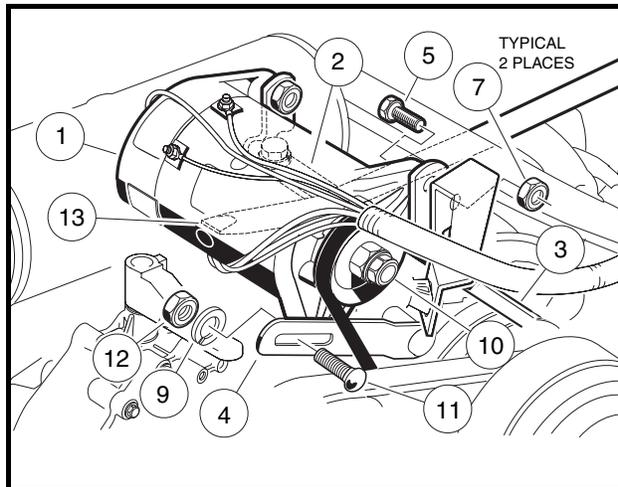
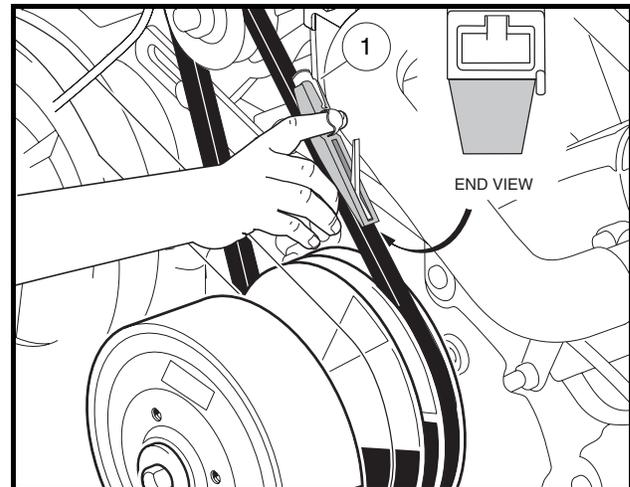

Figure 12-13 Starter/Generator Installation
Figure 12-14 Belt Tension Gauge
2. Install two 3/8-inch hex-head pivot bolts (5) into the mounting bracket with the heads of the bolts facing toward the driver-side of the vehicle. Position the starter/generator in the mounting bracket so that the bolts will go through the starter/generator before going through the bracket. Install a lock nut (7) onto each bolt. Tighten to finger tight (**Figure 12-13, Page 12-11**).
3. Install the adjustment bolt (11) through the adjusting bracket (4) and then through the starter/generator. Install a lock washer (9) and 5/16-inch nut (12) onto the end of the adjustment bolt (11). Tighten to finger tight (**Figure 12-13, Page 12-11**).
4. Install the belt (3), then tighten the mounting bolts. **See Belt Tension Adjustment on page 12-11.**
4. Make sure the two pivot bolts (5) on the mounting bracket are finger tight. The carriage bolt (11) and hex nut (12) are to be finger tight also (**Figure 12-13, Page 12-11**).
5. Push the starter/generator down so it is at the lowest point of its adjustment travel. With the starter/generator belt in place around the drive clutch pulley, install the starter/generator belt (3) around the pulley (10) on the end of the starter/generator.
6. Position a pry bar (13) between the top of the starter/generator mounting bracket (2) and the underside of the starter/generator by passing the pry bar under the exhaust header. **See following NOTE.**
7. While holding the pry bar, measure the belt tension using a Krikit® gauge (1) (available at NAPA® Auto Parts stores), or equivalent. Proper tension for a new starter/generator belt should be 75 ft-lb (101.7 N·m) or 45 ft-lb (61 N·m) for an existing belt (**Figure 12-14, Page 12-11**).
8. While maintaining the tension, tighten the adjustment nut (12) to 12 ft-lb (16.3 N·m). Tighten the two pivot bolts (5) and hex nuts (7) to 23 ft-lb (31.2 N·m) (**Figure 12-13, Page 12-11**). **See following CAUTION.**